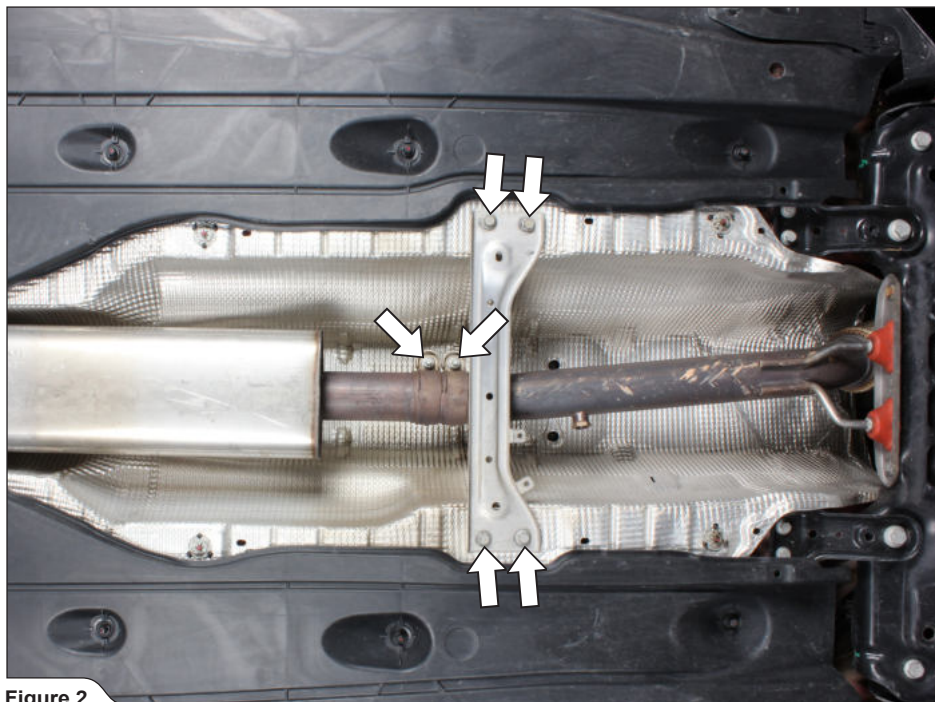

Figure 2
2. Unscrew the front chassis reinforcement and loosen the double clamp (**Figure 2**).